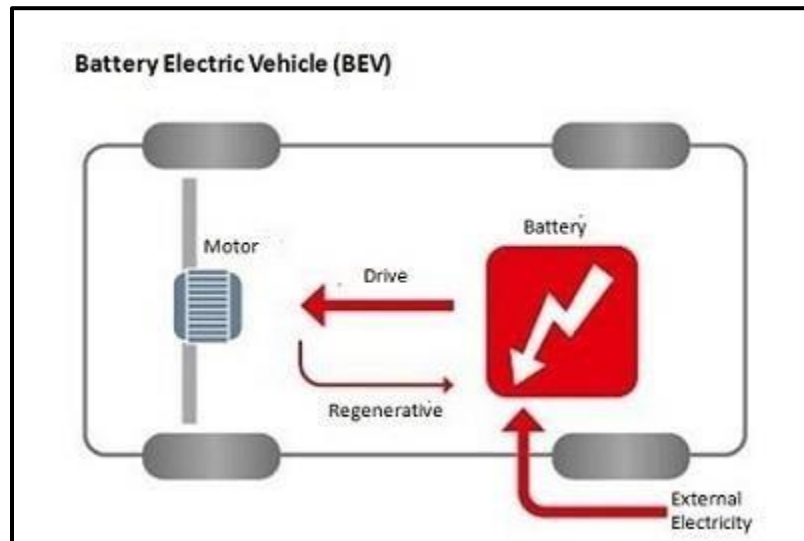
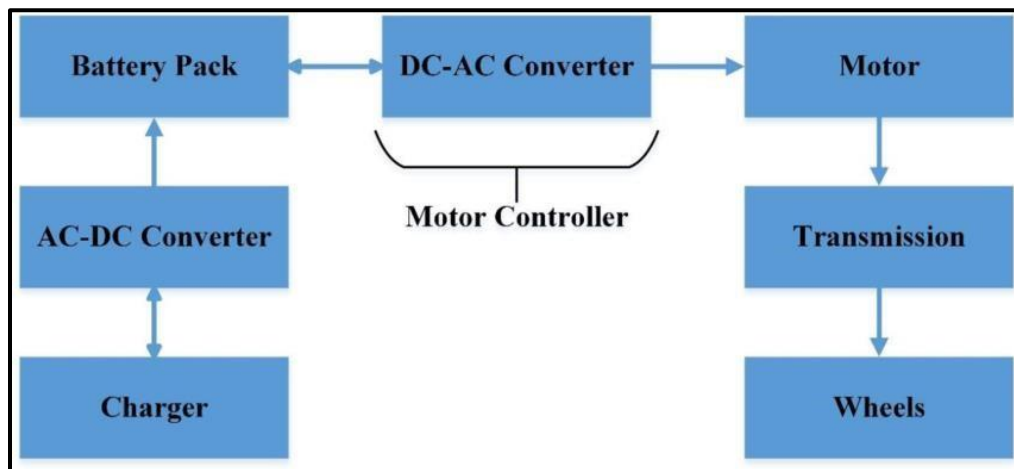

Figure 11. working of electrical vehicle
Figure 12. Flow chart of working of electrical vehicle
- When the brakes are pressed or the electric car is decelerating, the motor becomes an alternator and produces power, which is sent back to the battery. Rotation of the motor rotor rotates the transmission, so the wheels turn and then the car moves. Figure 11 and figure 12 shows the working principle and workflow of the electric vehicle. shows the flow chart of working of electrical vehicle.